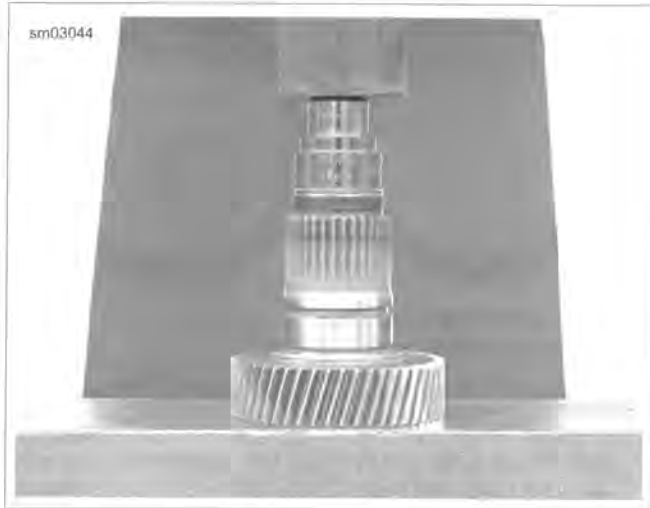

Figure 6-43. Pressing in Seal
4. See Figure 6-43. Turn over tool and press in mainshaft seal using the 0.090 in. step with garter spring side down.